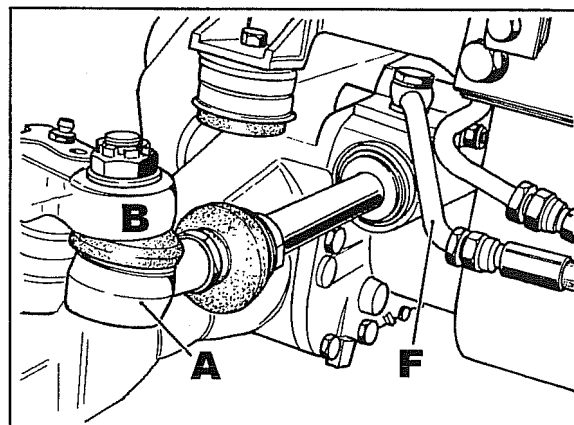

Fig. 69
- b. Disconnect the tube that acts as a drain when steering to the right (**F** Fig. 69).
1. On one side, disconnect the ball joint **A** Fig. 69 from the cylinder rod and on the other side remove the ball joint disconnecting it from both the cylinder rod and the wheel hub control arm **B** Fig. 69.